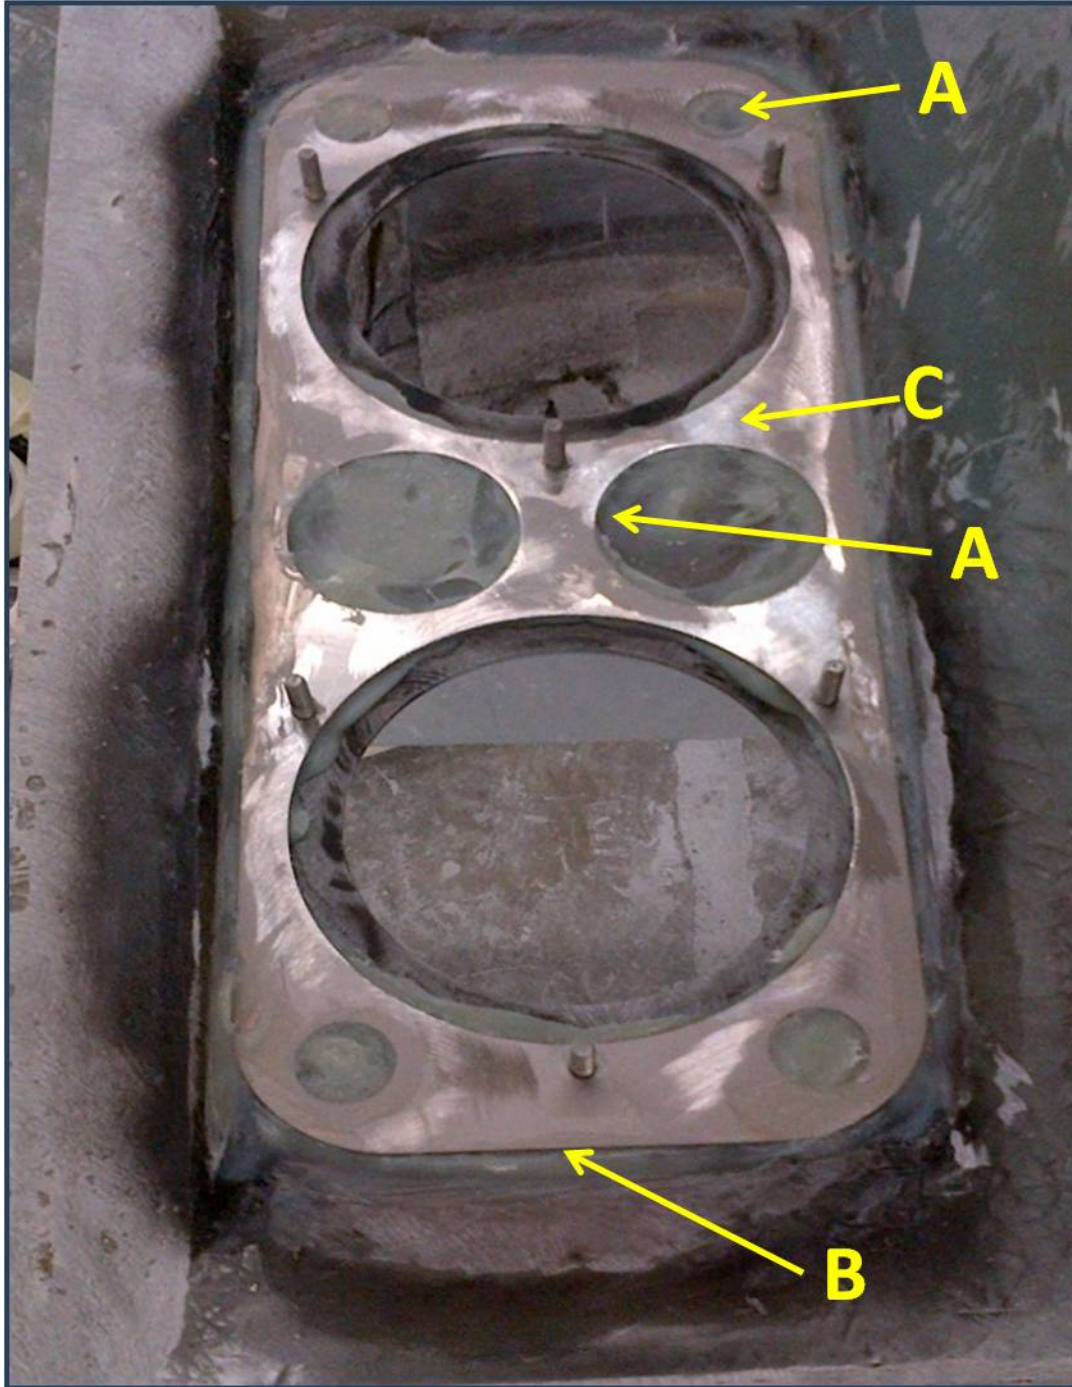
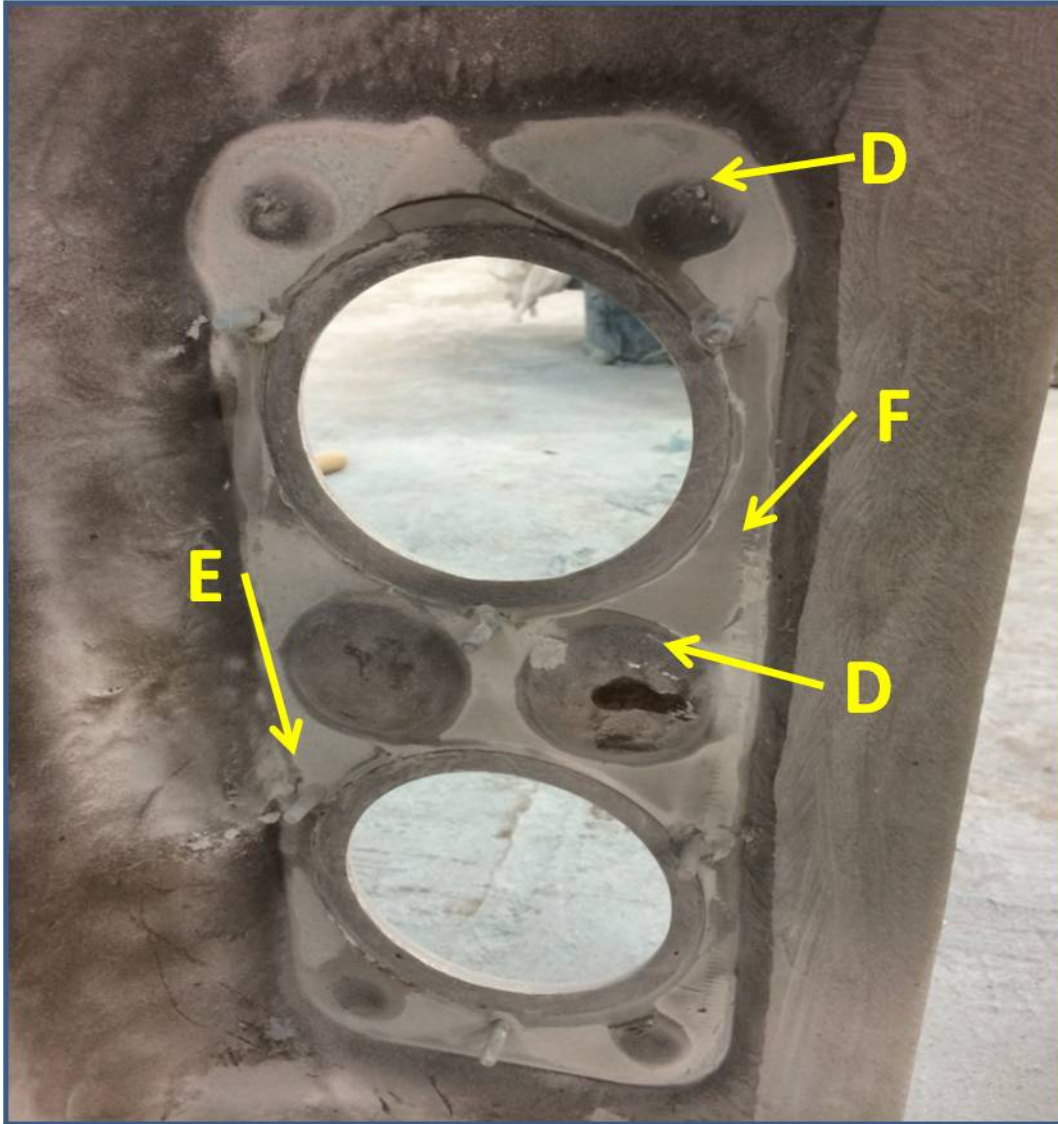

Figure 3: Suspect Taillight Bracket
Figure 4: Non-Suspect Taillight Bracket
5. Use pictorial examples of suspect and non-suspect taillight bracket installations from Figure 3 and Figure 4.